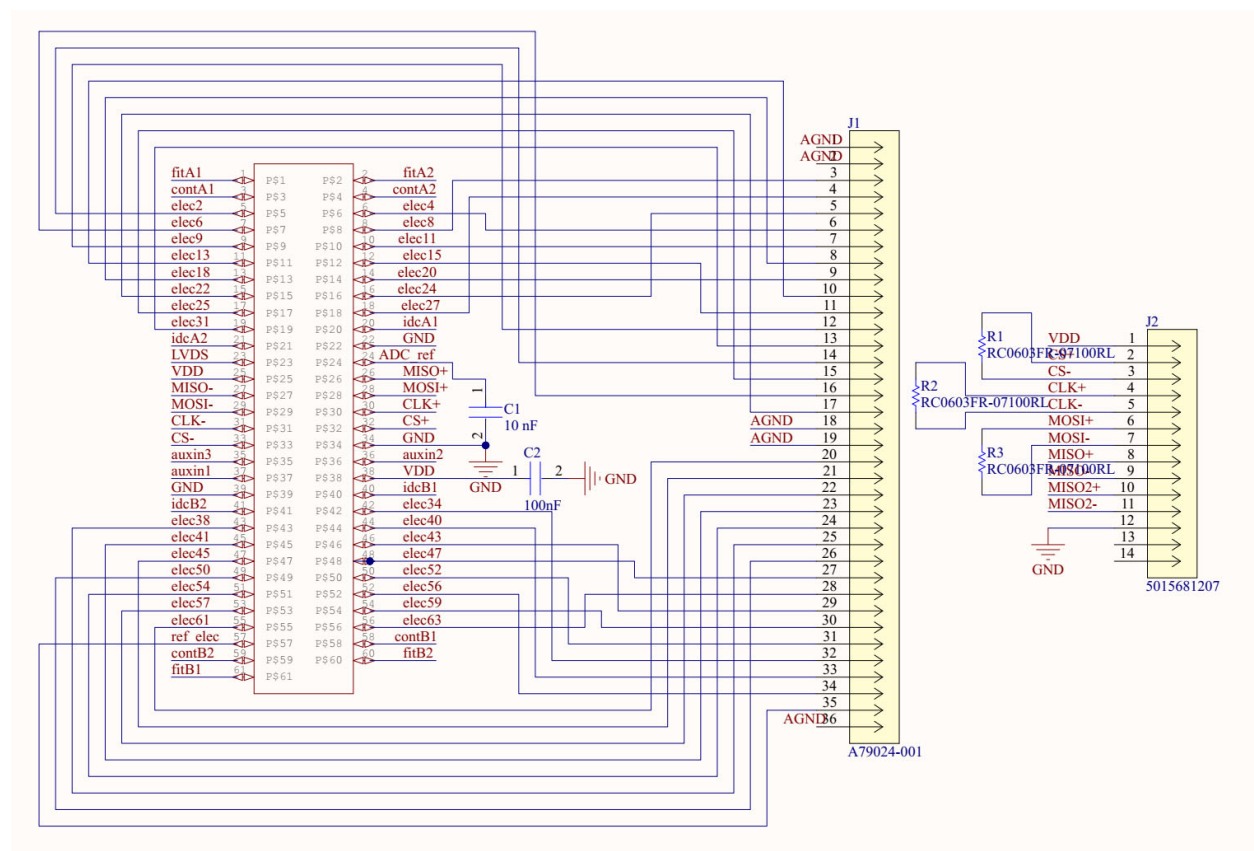

Figure 3: Schematic for an ASIC-integrated pMEA that is routed to an Omnetics and Molex connector
- d. See Figure 3 for a schematic of a PCB where 30 electrodes were connected to the ZIF.